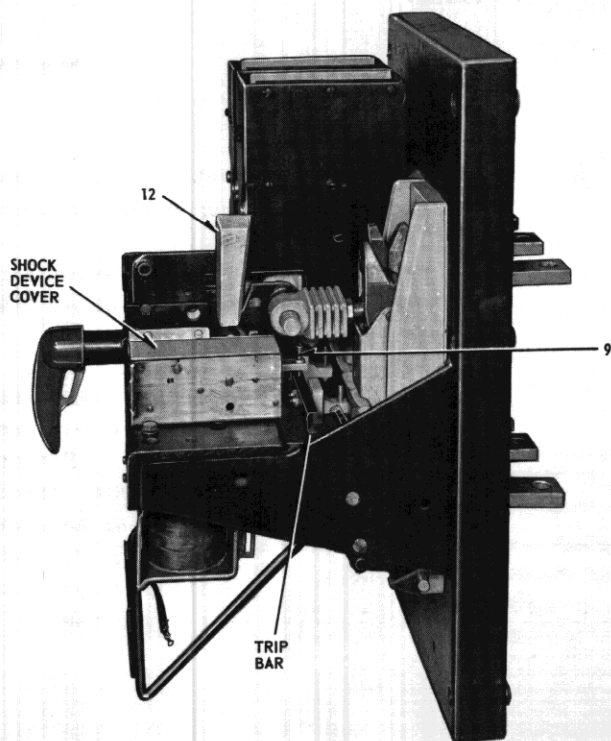

FIGURE 3. Breaker with New Anti-Shockout Device
- 4.5 If breaker has an electric lockout device and/or a hold-in device, modify as per paragraph (8) and/or (9).
- 5 Installation of New Parts - remove cover from new anti-shock-out device (Fig. 3).
- 5.1 Slide anti-shock-out device into position shown in Figure (3).
- 5.1.1 Be sure screw (9) (Figure 3) is not caught under trip bar.